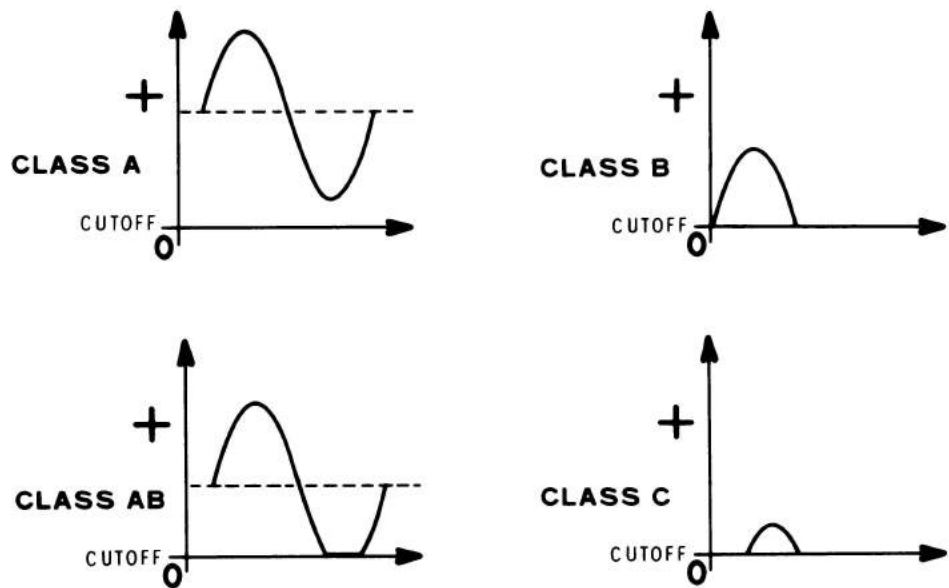

Figure 4-36
16. The correct drawings are shown in Figure 4-36.